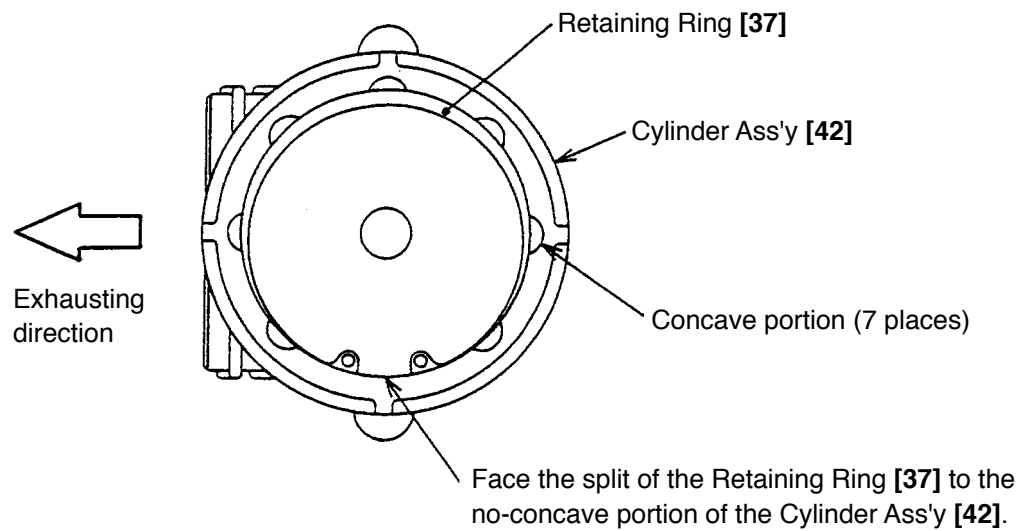

Fig. 40
- When mounting the Retaining Ring [37] to the Cylinder Ass'y [42], fit the Retaining Ring [37] in the groove securely facing the split to the no-concave portion of the cylinder. Face the sagged side of the Retaining Ring [37] to the Piston [39] (Figs. 40 and 41).